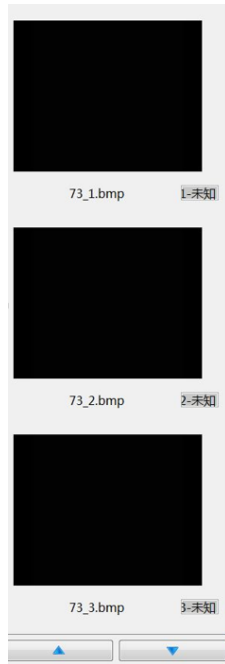

Fig. V-71 Column for Display of Saved Image
a. Delay + product determination: the program will automatically save the image for each point, and the saved images will be displayed in the left display column (Fig. V-71).
b. Determination of each testing point: after the program runs to each testing point,   will pop up to determine each point. The program will save the image of each point, and the saved image will be displayed in the left column (Fig V-71). Suffix "REJ" will be added to the unqualified image. Suffix "NG" of the folder will also be displayed. Same item with "unqualified" result at any point in the testing will be determined as "unqualified item";